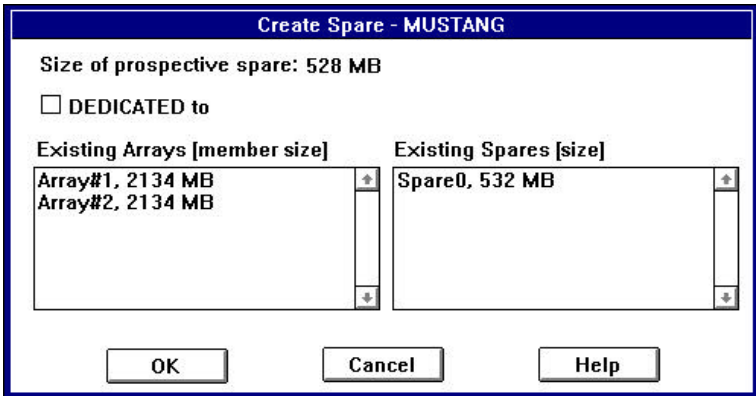

Figure 3-6: Create Spare Dialog Box
3. Click **Create Spare...** The Create Spare dialog box appears, as shown in Figure 3-6. A list of already-defined spares appear on the right. Names of existing arrays appear on the left only if the disk you selected is large enough to protect that array as a spare.